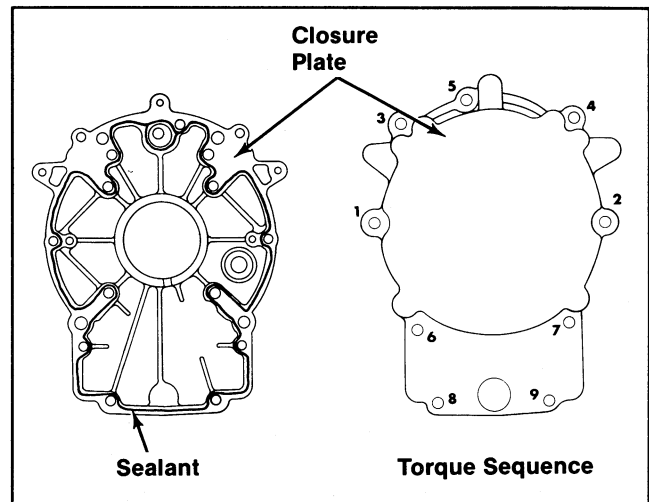

Figure 11-27. Closure Plate Sealant Pattern/Closure Plate Fastener Torque Sequence.
- When reinstalling a closure plate originally installed using sealant or installing a service replacement closure plate kit, apply a new bead of sealant to the closure plate as shown in Figure 11-27.
- Apply a 1/16" bead of sealant to the closure plate as shown in Figure 11-27. Follow the sealant manufacturer's recommendations regarding setting.
- Install the closure plate and hex. flange screws. Torque screws to 150 in. lb. in the sequence shown in Figure 11-27.